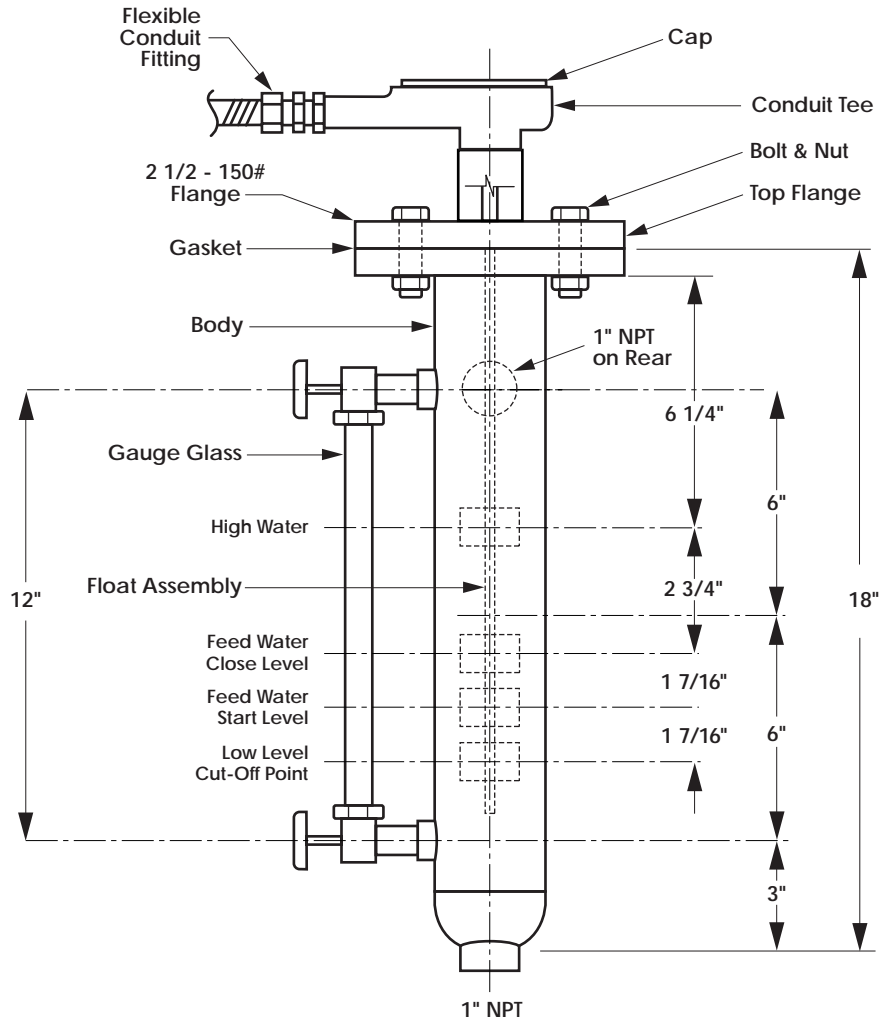

Figure B-1: Armstrong Stainless Steel Level Controller Schematic
3. Remove the four (4) bolts and nuts securing the top flange to the body of the unit (see Figure B-1).